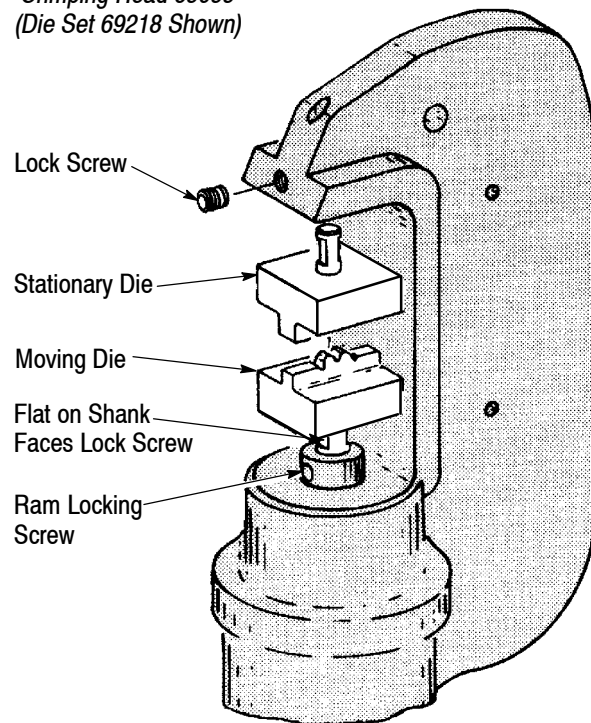

Figure 3
1. Loosen the lock screw in the top section of the crimping head. See Figure 3.
2. Insert the shank of the stationary die into the top section of the crimping head and tighten the lock screw. See Figure 3.
3. Loosen the ram lock screw and insert the shank of the moving die into the ram well. Tighten the lock screw. See Figure 3.
Ensure that the wire size stamped on the terminal or splice corresponds with the wire size stamped on the stationary die. Crimping head 69099 is shown in Figures 3 thru 6. The crimping procedure is identical when using crimping head 69097.